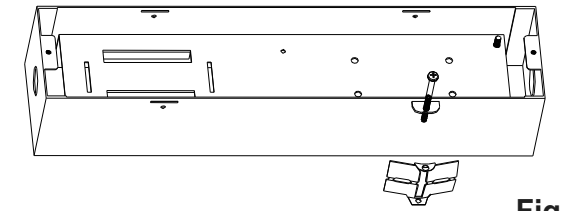

Fig. 5
4. Position the metal brackets beneath the screw holders and inset the long screws (provided) as shown in Figure 5.